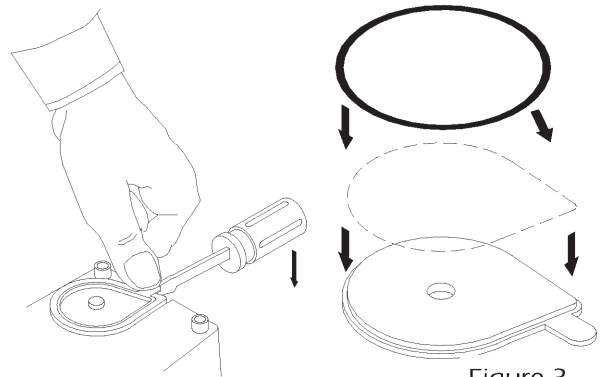

Figure 3
- Place the pump upside down; place a screwdriver under the tab of the baseplate, (put a thumb over the tab to prevent breakage), and pry the cover up and off. (Figure 3)
- Remove the "O" ring seal and keep it clean. (Figure 3)
- Stretch the "O" ring onto the baseplate. (Figure 3)